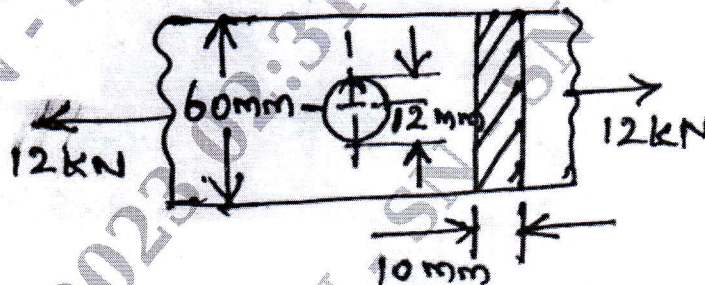

Fig. Q3 (b)
- b. Find the maximum stress induced in the following case taking stress concentration into account. A rectangular plate 60 mm × 10 mm with a hole 12 mm diameter shown in Fig. Q3 (b) and subjected to a tensile load of 12 kN. (10 Marks)